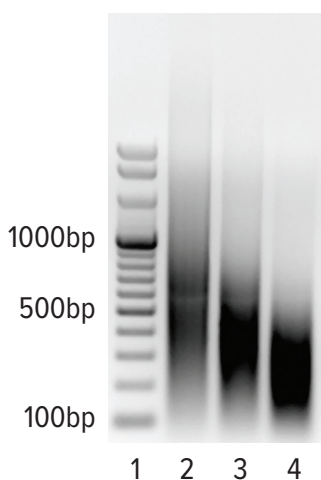

Figure 5: Gel analysis of sonication shearing (ChIP-IT Express).
7. Optimal sonication shearing should result in a 200-1500 bp smear similar to that shown in lanes 2 or 3 of Figure 5 below.